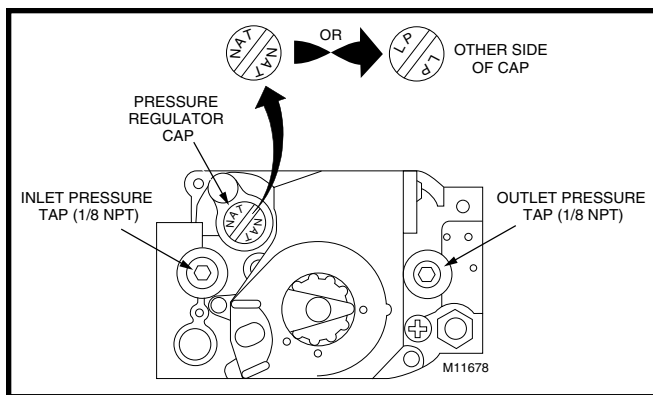

Figure 28. Honeywell Gas Valve
- A 1/8" NPT plugged tappings for test gauge connection are present on the gas valve. See Figure 28 \(page 21\) for locations
- b. Remove three (3) bolts from U-shaped manifold plate and orifice assembly (M1B Models).
- a. Unscrew the pressure regulator cap and check for the letters NAT or LP. See Figure 28 \(page 21\).